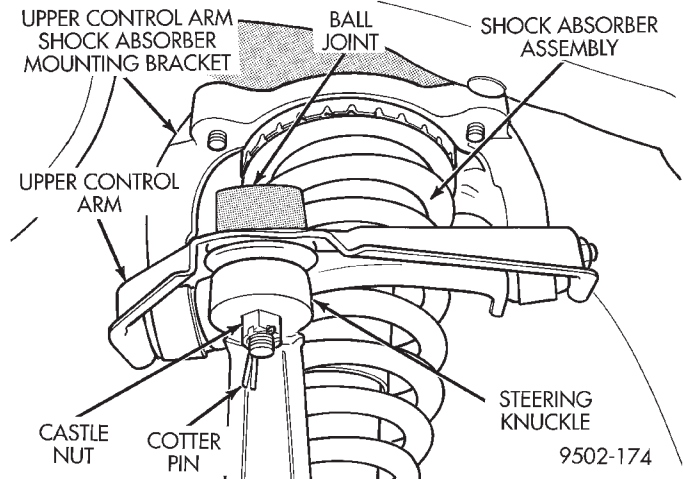

Fig. 4 Ball Joint Attachment To Steering Knuckle
- (6) Remove the cotter pin and castle nut (Fig. 4) from the upper ball joint stud.
(5) Install upper ball joint into steering knuckle. Install castle nut on ball joint stud. Tighten castle nut to a torque of 54 N·m (40 ft. lbs.). Install cotter pin in stud of ball joint (Fig. 4).